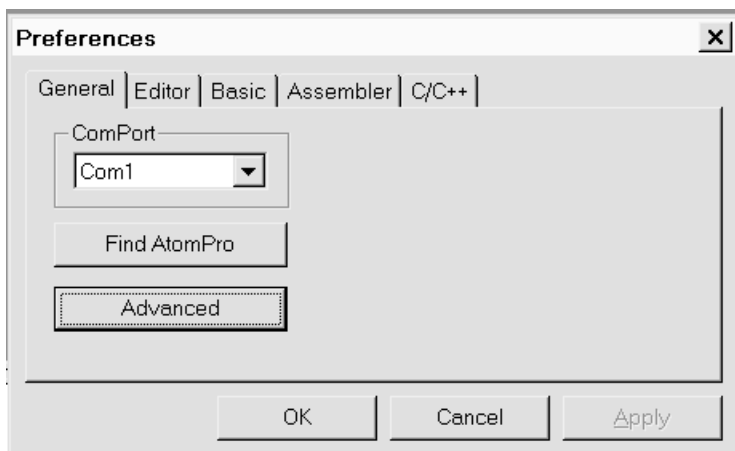

Figure 1 - Setting the serial port
5. Go to Tools : System Setup and choose the serial port to be used for connecting the development board (see Figure 1). Click Find AtomPro if it is connected but you don't know which port to choose. (The other tabs aren't needed at this point.) Close the program.